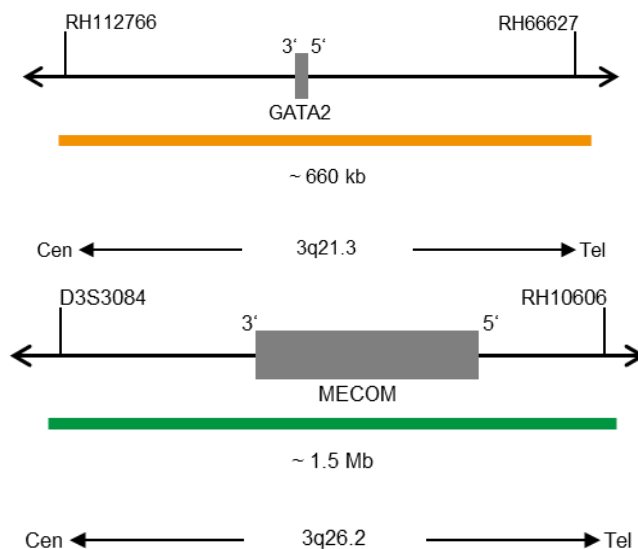

Fig. 1: Top: SPEC GATA2 Probe map; Bottom: SPEC MECOM Probe map (not to scale)
- ZyOrange (excitation 547 nm/emission 572 nm) labeled polynucleotides (~6 ng/ μ l), which target sequences mapping in 3q21.3* (chr3:127,902,316-128,564,215) harboring the GATA2 gene region (see Fig. 1).
- ZyGreen (excitation 503 nm/emission 528 nm) labeled polynucleotides (~12 ng/ μ l), which target sequences mapping in 3q26.2* (chr3:168,249,484-169,743,447) harboring the MECOM gene region (see Fig. 1).